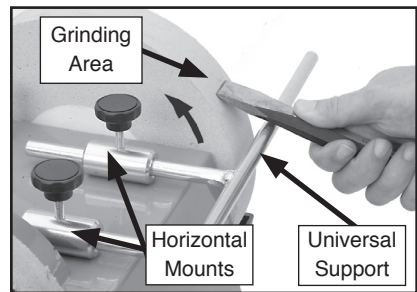

Figure 7. Horizontal mount.
2. Attach the universal support in the horizontal mounts as shown in **Figure 7**. Be sure it is securely positioned and will not move during grinding.